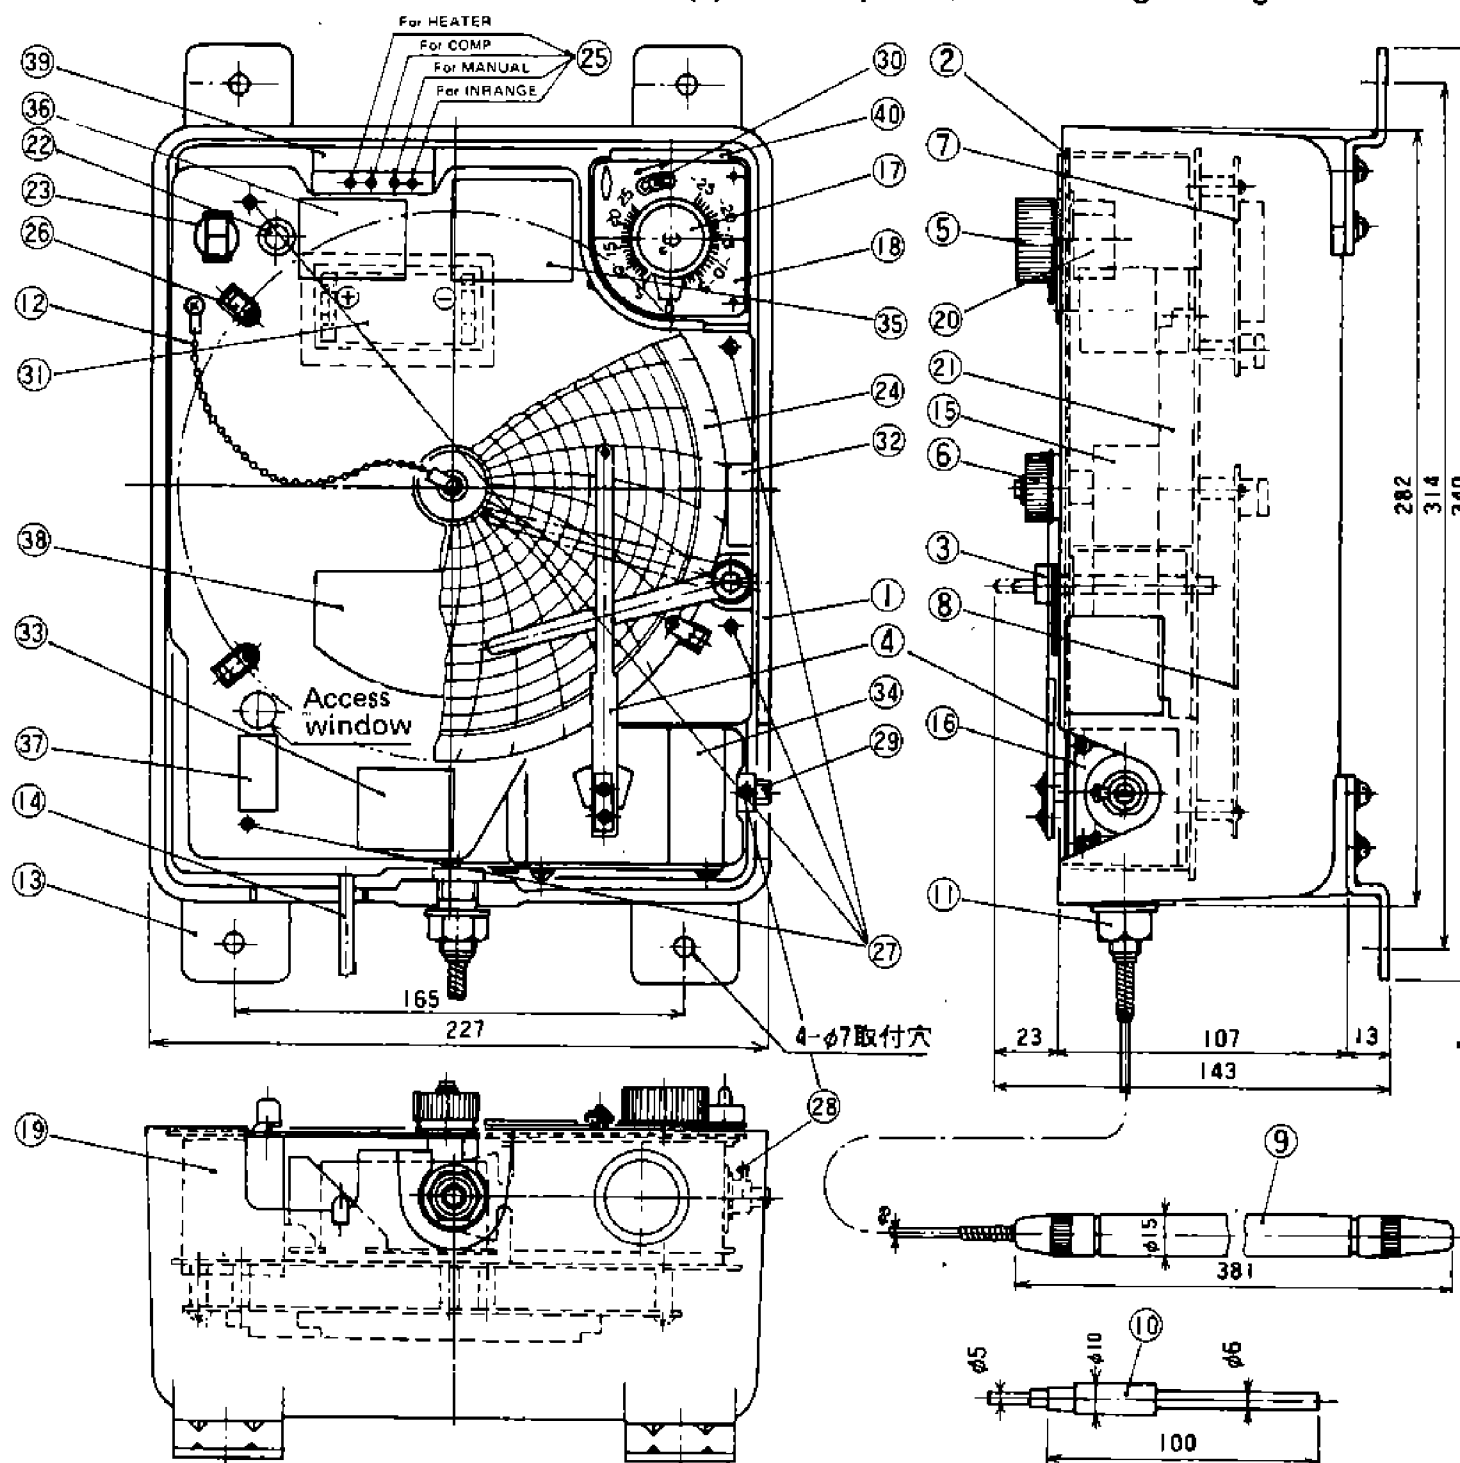

Fig. 1 Structure
- External wiring (Wiring from the devices in the control box to the unit . . . . . to Terminal 21 in Fig. 1)